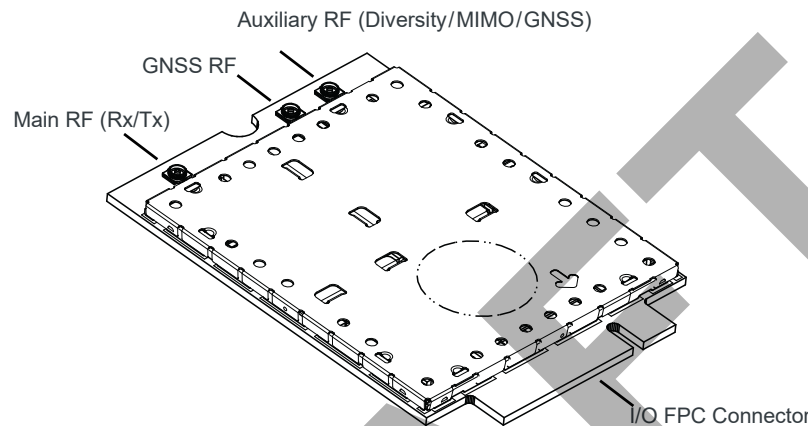

Figure 3-1: Module Connectors (Preliminary shield design, subject to change)
- Connect to system ground using the mounting hole shown in Figure 3-1 on page 31.